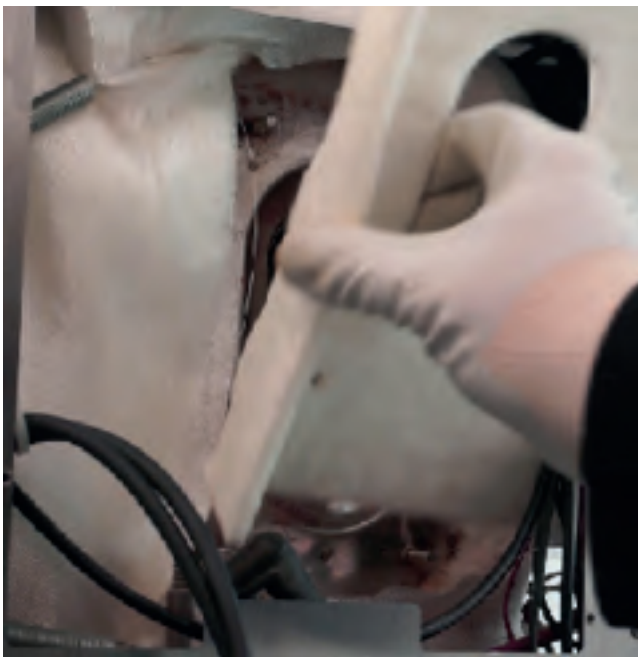

Figure 11
■ h) Install the new sealing/isolation part that is called KGN1569A as shown on **Figure 11**.